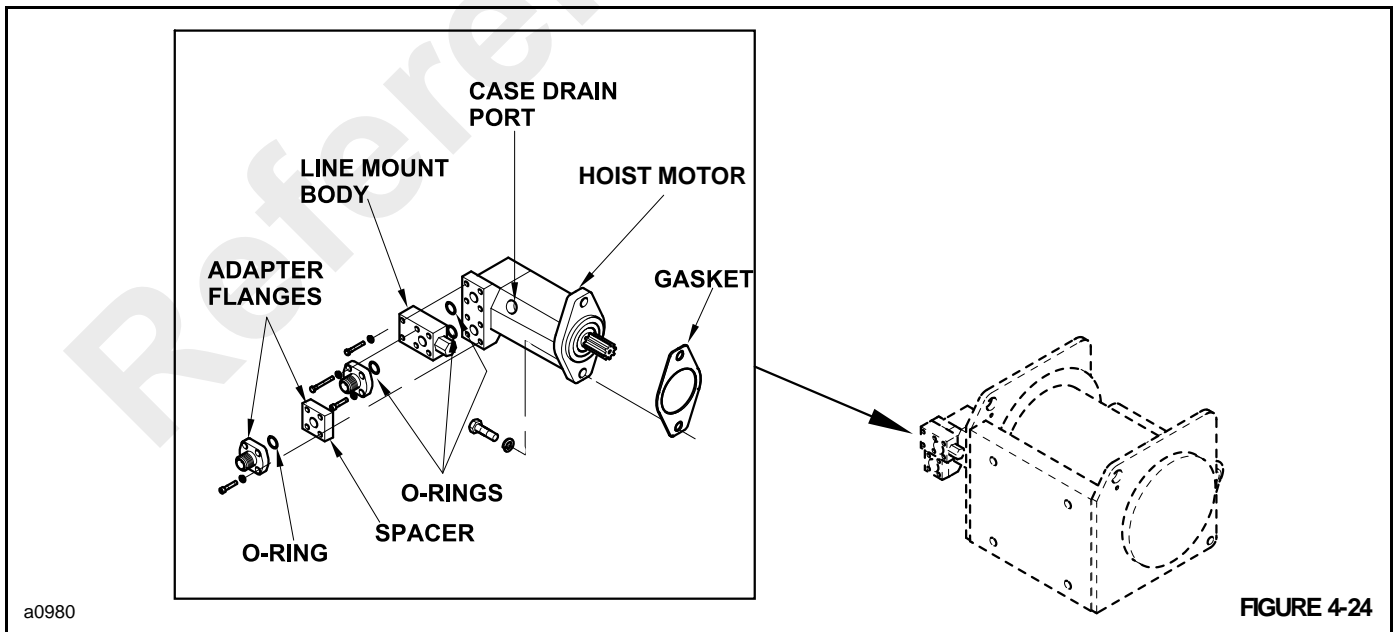

FIGURE 4-24
4. Remove hoses, fittings, the adapter flanges, spacer block and line mount body Figure 4-24 from the pump. Discard all O-rings.
1. Install the line mount body Figure 4-24, spacer and adapter flanges to the hoist motor. Be sure to use new O-ring seals.
3. Fill the hoist motor with clean hydraulic fluid through the case drain port Figure 4-24 to the bottom of the fill plug.